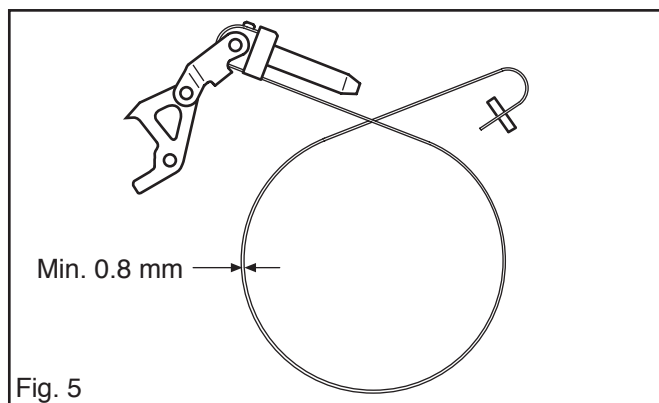

Fig. 5
8. Remove the toggle joint (E) with attached brake band. See fig. 5.
The thickness of the brake band must nowhere be less than 0,8 mm. See fig. 5.
5. Grease and fit the retaining bush (B) with spring (C). See fig. 5.